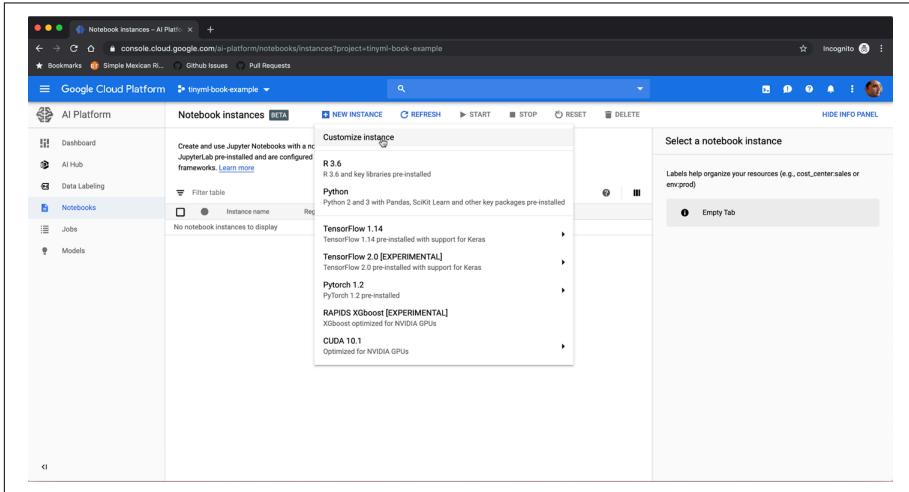

Figure 10-3. The instance creation menu
5. A “Notebook instances” screen will open. In the menu bar at the top, select NEW INSTANCE. On the submenu that opens, choose “Customize instance,” as shown in Figure 10-3.